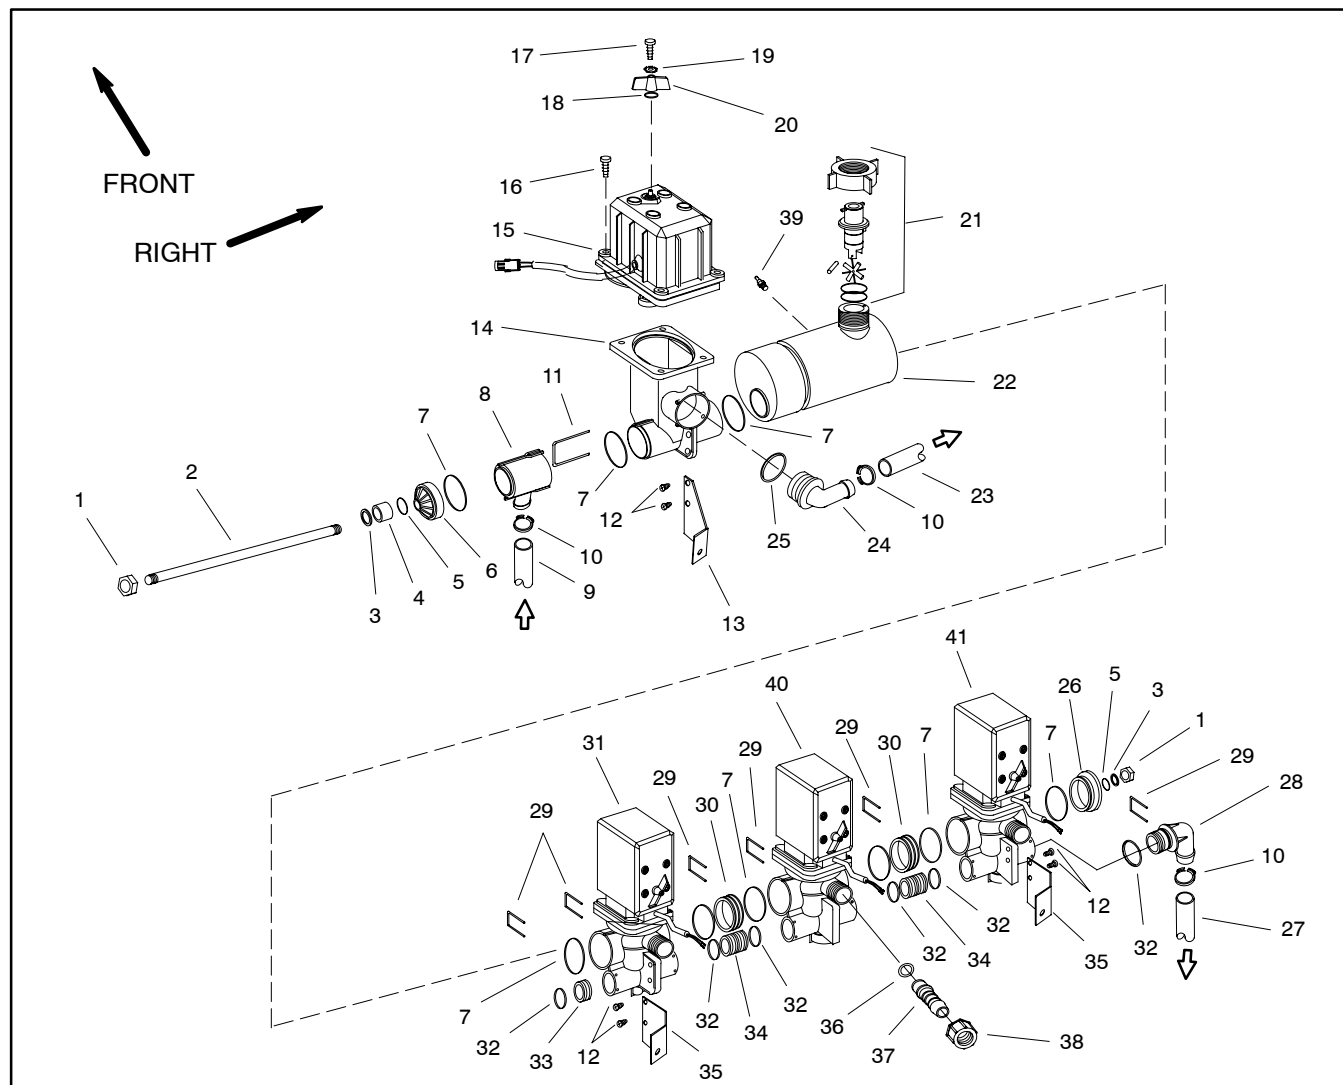
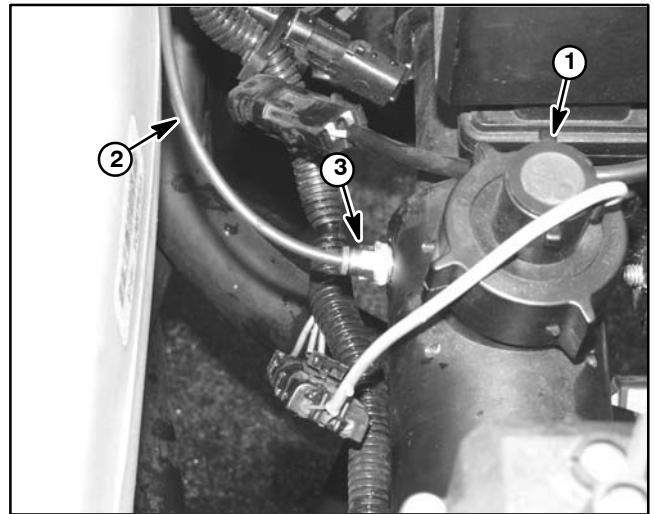

Figure 35
Figure 37
3. Unplug electrical connectors from rate control motor, flowmeter, and three (3) boom valve motors from machine electrical harness.
4. Remove pressure gauge tube from coupler on back of flowmeter housing (Fig. 37).
5. Remove three (3) flange head screws that secure spray control assembly to valve mounting bar. Remove spray control assembly from machine.
6. Remove spray control components as required using Figure 35 as a guide. Discard all removed o-rings and gaskets.
1. Install spray control components using Figure 35 as a guide. Replace all removed o-rings and gaskets.
2. Position spray control assembly to valve mounting bar and secure with three (3) flange head screws.
4. Install pressure gauge tube to coupler on back of flowmeter housing (Fig. 37).
5. Plug electrical connectors from rate control motor, flowmeter, and three (3) boom valve motors to machine electrical harness.